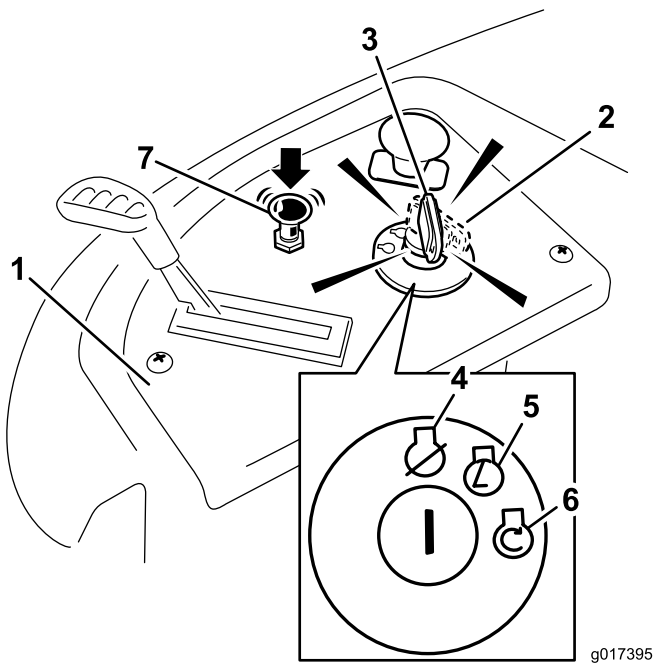

Figure 16
4. Turn the ignition key to Start to energize the starter. When the engine starts, release the key (Figure 16).
5. After the engine starts, push down on the Choke control (Figure 16). If the engine stalls or hesitates, pull up on the Choke control and let the engine run for a few seconds. Then push down on the Choke control. Repeat this as required.
3. Turn the ignition key to Off (Figure 16) and remove the key.